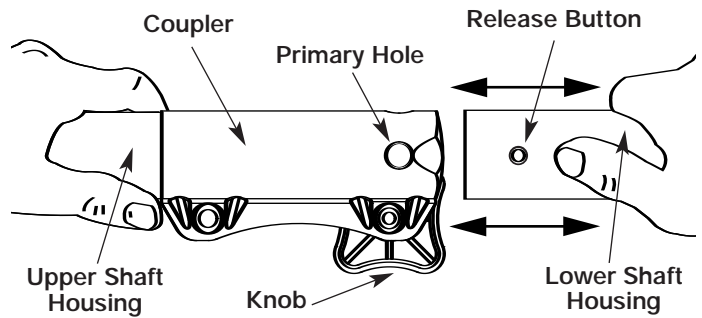

Fig. 2
3. While firmly holding the upper shaft housing, pull the add-on out of the coupler (Fig. 2).
3. While firmly holding the add-on, push it straight into the coupler (Fig. 2).
**CAUTION:** Lock the release button in the primary hole (Fig. 2) and securely tighten the knob before operating this unit.